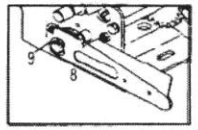

Fig.3
- C.Assembly the brake handle (8) on to pinion shaft (1), making sure the tab on the brake handle is inserted into the other end loop of the brake spring (5) press retaining ring (9) into groove to secure the brake handle on to the pinion shaft. (Please refer to Fig.3)